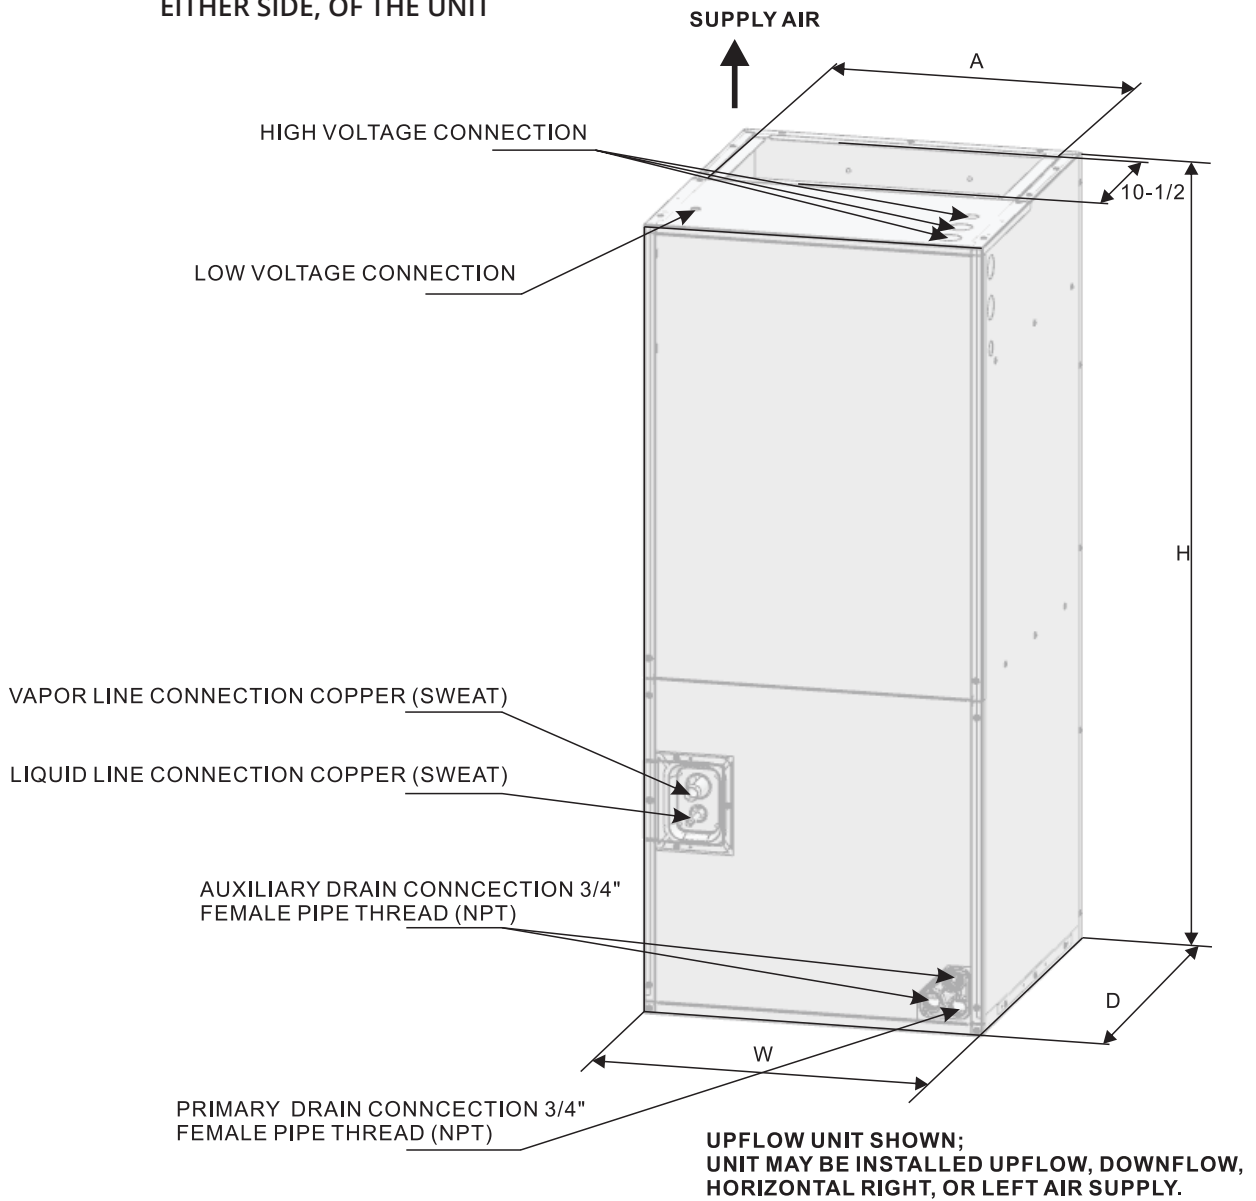

Fig. 1 Dimensions
Top and side power control wiring, and accessible screw terminals for control wiring, all combine to make the installation easy, and minimize installation cost. Please contact your local distributor (Refer to Fig.1).
- 1.) Vertical Upflow configuration is the factory set on all models (Refer to Fig 1).
Torque applied to drain connections should not exceed 15 ft-lbs (20.34 Nm) (Refer to Figs. 1 & 2).